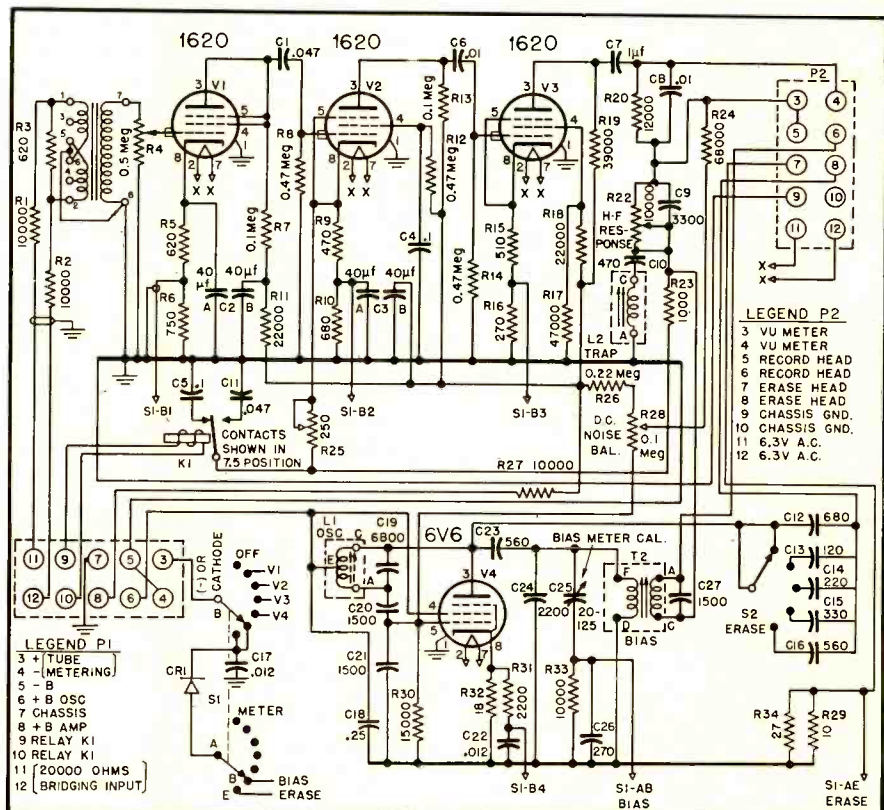

Fig. 5. Overall schematic of recording amplifier.
Figure 5 shows two curves taken in the manner described. Curve 1 is the measured distortion characteristic of a typical Partridge High Fidelity output transformer (type PPO/2) employing a high grade silicon-iron core. Curve 2 is the same characteristic taken for the same transformer but with a Radiometal core substituted for the silicon iron. It will be noticed that really low percentages are obtained by the use of the more expensive nickel-iron core material which also greatly increases the band width obtainable with any given degree of primary-secondary intersection. It will be noted, however, that the power handling capacity of the transformer is not increased by the use of the nickel iron core. In both cases the percentage distortion increases rapidly for power levels above 10 watts. This should be expected as both materials saturate at about the same flux density.
Fig. 5. Typical distortion curves taken on two transformers with identical windings and different core materials. (1) silicon-iron core, and (2) Radiometal core.